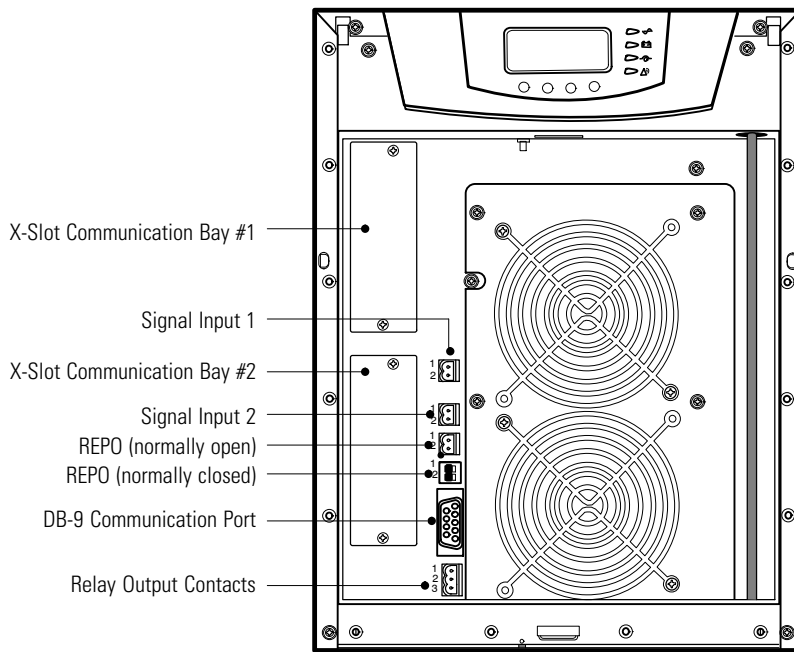
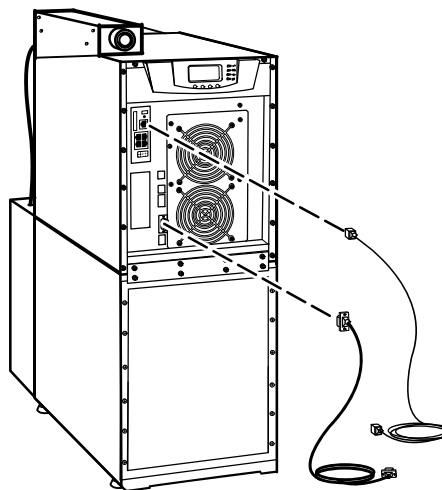
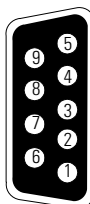

Figure 28. Communication Options and Control Terminals
Figure 30. Installing Communication Cables
Figure 33. Communication Port
Figure 28 shows the location of the communication options and control terminals on the UPS.
2. Install the appropriate X-Slot card and/or necessary cable(s) into the top cabinet (see Figure 28 and Figure 30).
The cable pins are identified in Figure 33 and the pin functions are described in Table 5. See Figure 28 on page 55 for the communication port location.
See Figure 28 on page 55 for the location of the two X-Slot communication bays.